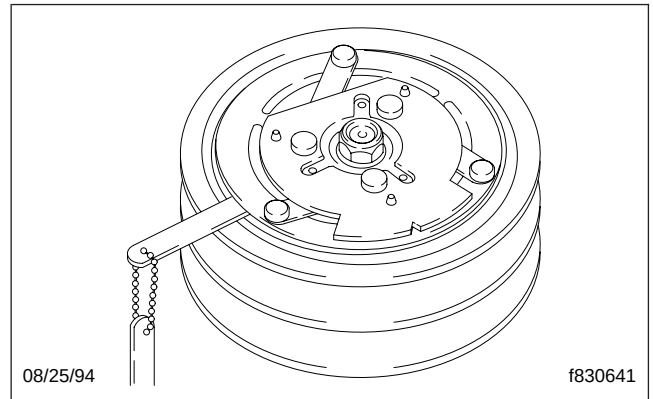

Fig. 1, Drive Plate Clearance Inspection
4. On a Sanden refrigerant compressor, use a feeler gauge to check that the drive plate clutch clearance is 0.016 to 0.031 inch (0.40 to 0.78 mm). See **Fig. 1**. If the drive plate clutch requires adjustment, see **Section 83.01, Subject 140** of the *Century Class Trucks Workshop Manual*.